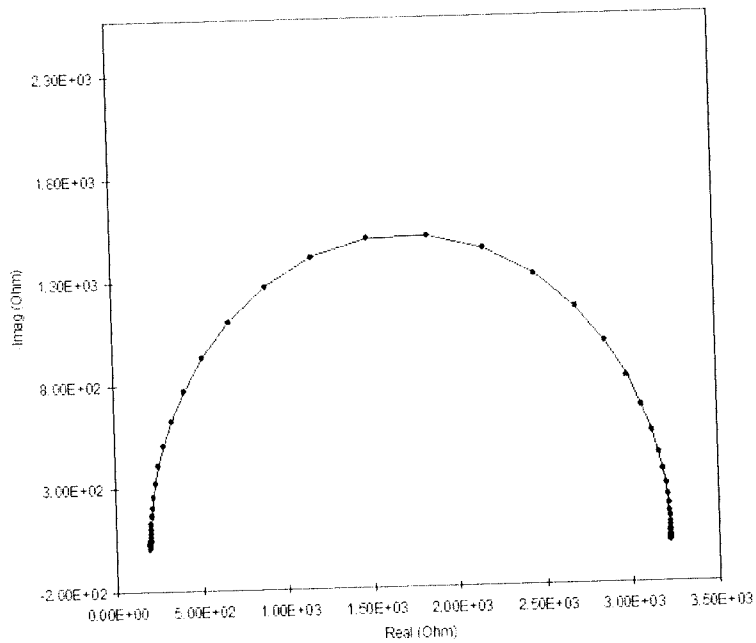

Figure 4: Nyquist plot with fit line
- (iii) Figure 4 shows EIS result from this measurement, propose an equivalent circuit for this result.